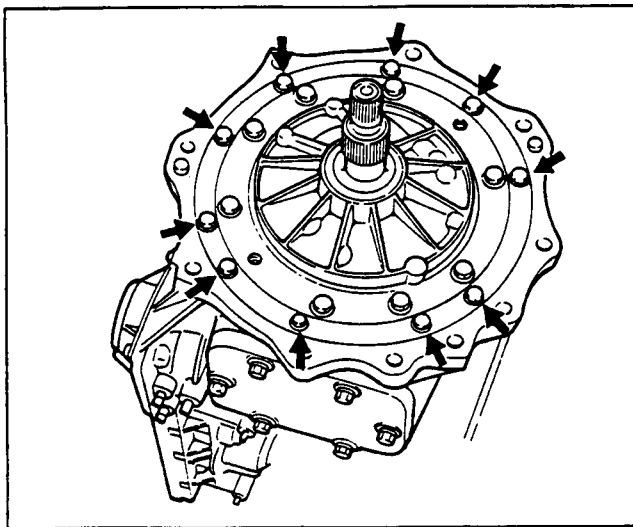

Figure 14. Oil Pump Removal (2)
2. Remove bolts (10 pcs) around the oil pump retainer (figure 14).